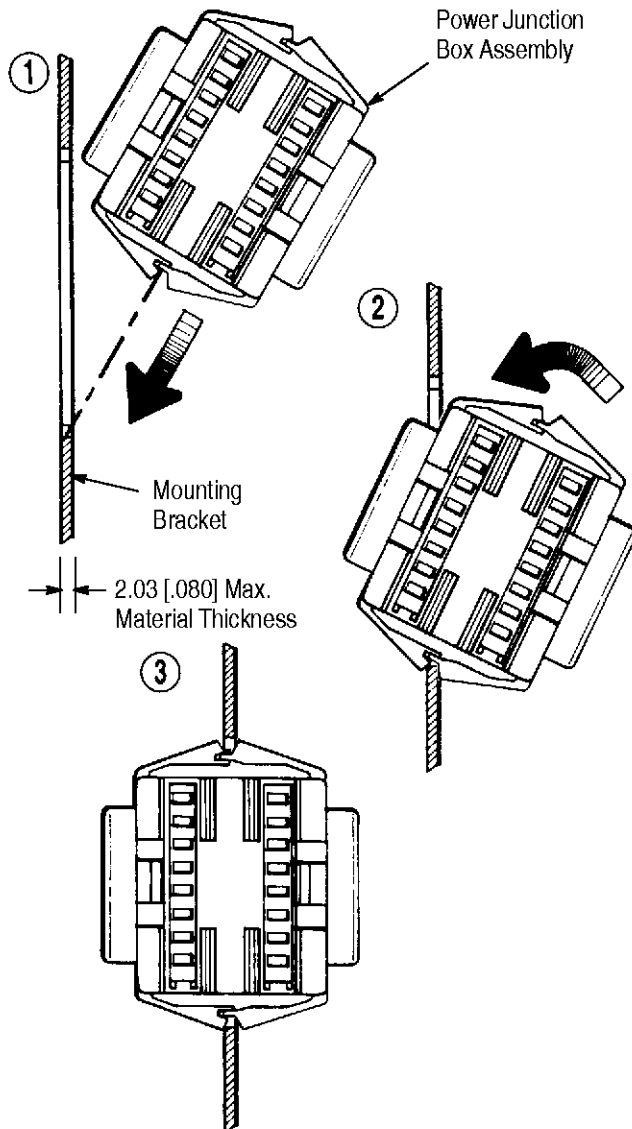

Figure 10
1. Place bottom latches of the junction box into notches of bracket cutout (see Figure 10).